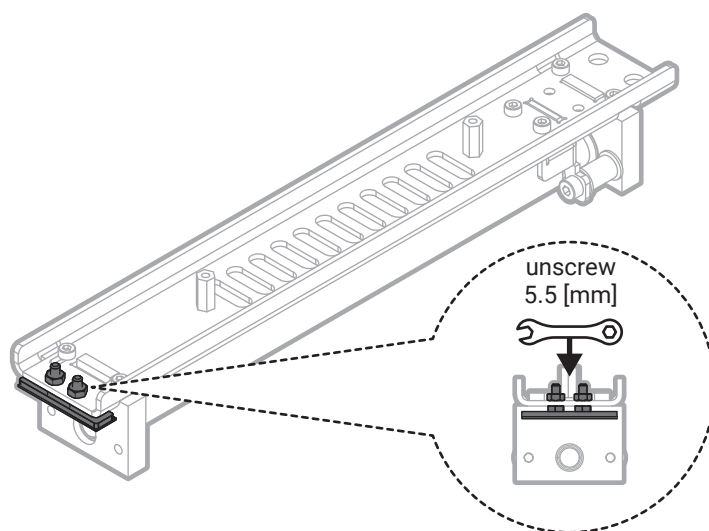

Fig. 6 Removing the left Tribotape.
14. Using a 5.5 mm wrench loosen the two screws of the Tribotape on the left side of the Recoater (fig. 6).
15. Remove the Tribotape (fig. 6).